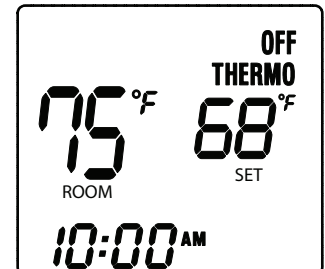

Fig. 6 Thermo Mode
**Step 2:** Press the MODE button a second time to put the system in **THERMO** mode (Fig. 6).